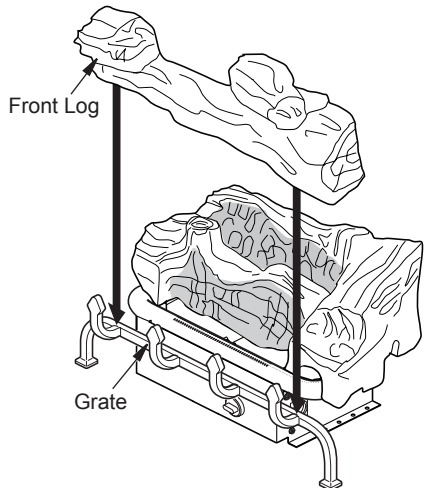

Figure 19 - Installing Front Log (#2)
2. Place front log onto grate. Log is notched to sit over grate (see Figure 19).